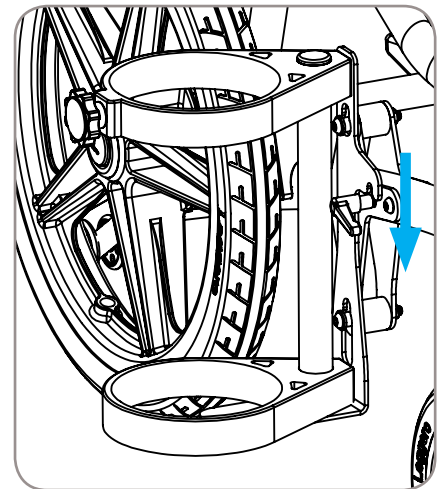

Figure 33
1. Align the slots on the O2 Holder to the bosses on the bracket. Reference Figure 33.